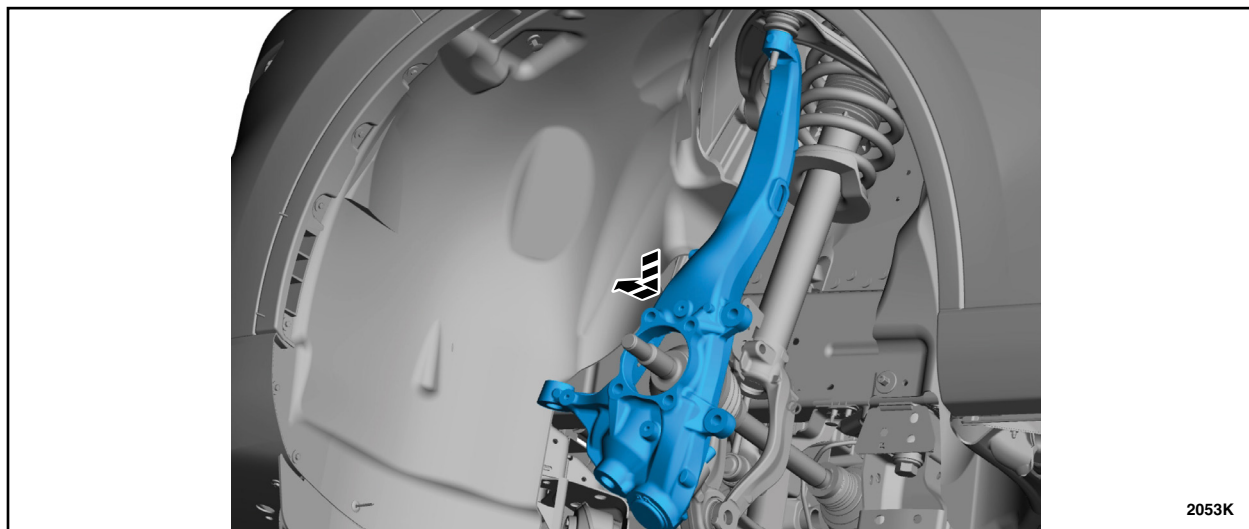

FIGURE 11
16. Remove the wheel Knuckle. See Figure 11.